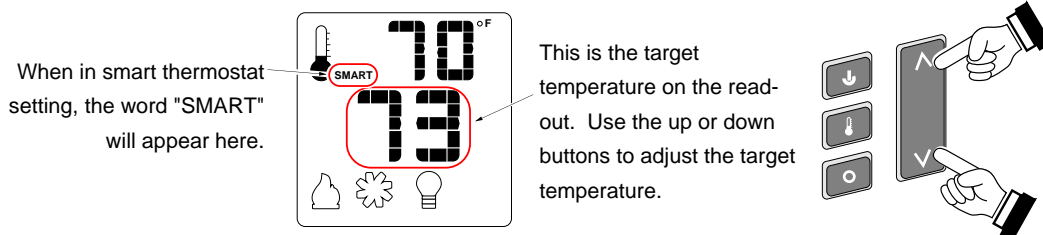

Figure 8
- **SMART THERMOSTAT** – While in Smart Thermostat mode, the transmitter will control the burner to achieve the target temperature (see Figure 8 below). Flame height will be adjusted up or down to allow operation without turning the burner on and off (also called "smart modulation"). To adjust the target temperature, press the UP and DOWN buttons until a suitable temperature is achieved.